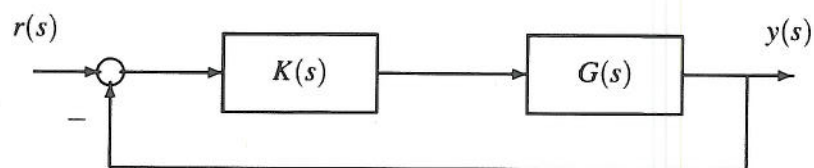

Figure 2.1
2. Consider the feedback control system in Figure 2.1 below. Here,